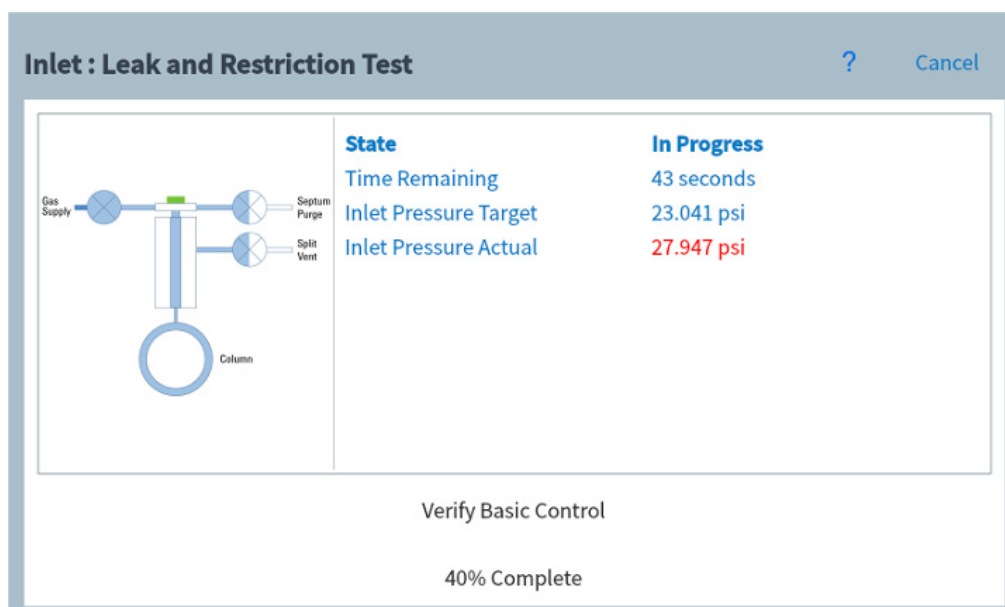

Figure 30 Leak & Restriction Test page
- 3 Press **Start Test**. Testing is initiated. Test details are displayed along with test results. See Figure 30.